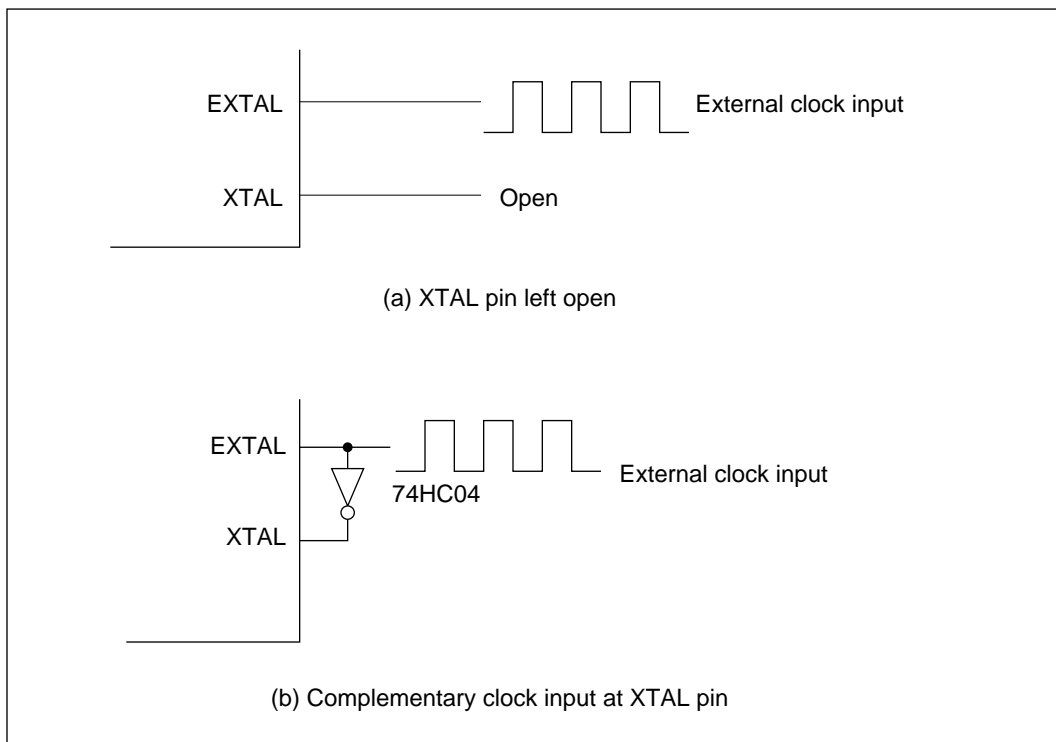

Figure 8-6 External Clock Input (Examples)
(3) **Circuit Configuration (HD6475368S, HD6475348S, HD6435368S, HD6435348S):** Figure 8-6 shows examples of external clock input. When using figure 8-6 (b), make sure the external clock does not go high during standby mode. When the XTAL pin is open, make sure the parasitic capacitance is less than 10 pF.